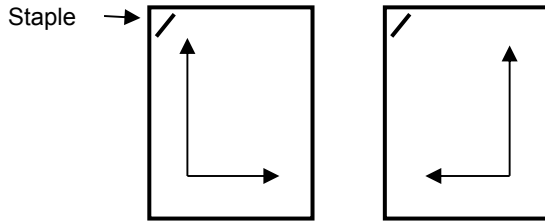

Figure 2. Place the “x-axis” of a graph towards the bottom of the page, or towards the right side of the page.
Do not just write “See Table 1” or “See Figure 2” for the text of an answer. Write “Figure 2 shows the voltage-current response... .” Answers need to stand alone; they should be clear, concise, correct and complete.
- as shown in **Figure 2**. Arrange all lettering to read from the bottom or right-hand side of the page.